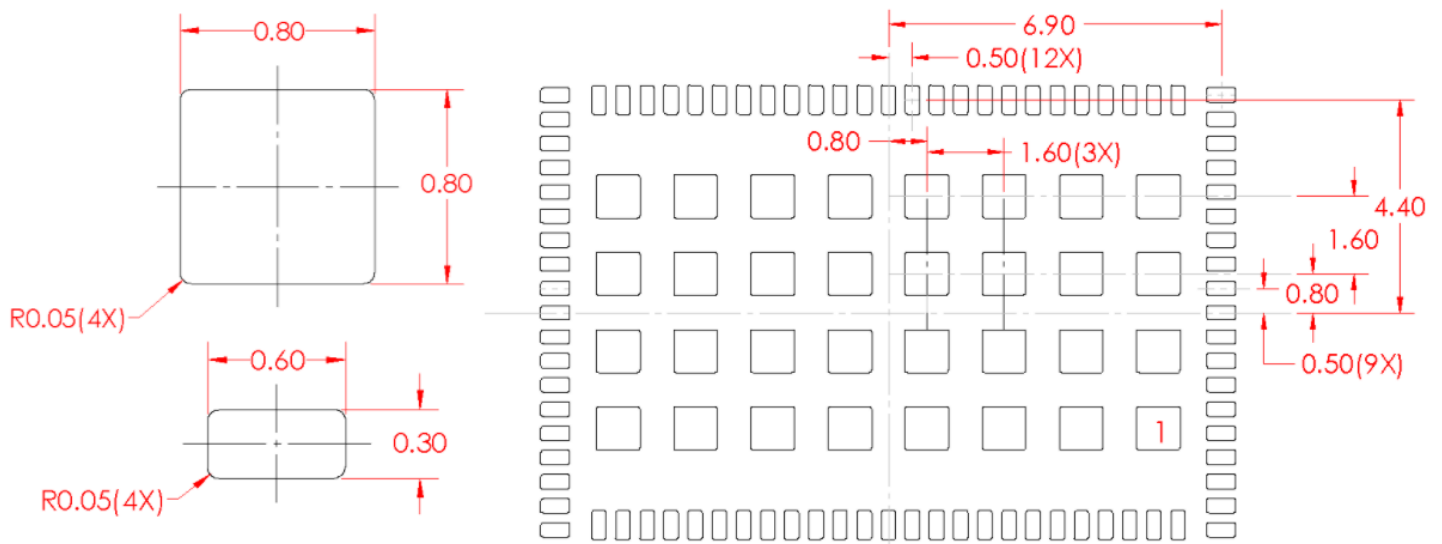

Figure 9. Land pattern dimensions (symmetrical across the X-Y centerlines)
1.4 (January 2021)	Updated module photo. Changed VIN max to 3.6 V (was 6 V, which did not account for load switching outside the PMIC), and AON max is now based on VIN max (table 2). Added section 2.6 IO supplies. Added "Supply voltage" column to table 6. Updated USB2 circuit (figure 4) to tie the PCIE input lines low. Improved land pattern illustration (figure 9). Added note about possible USB 3.0 designs.